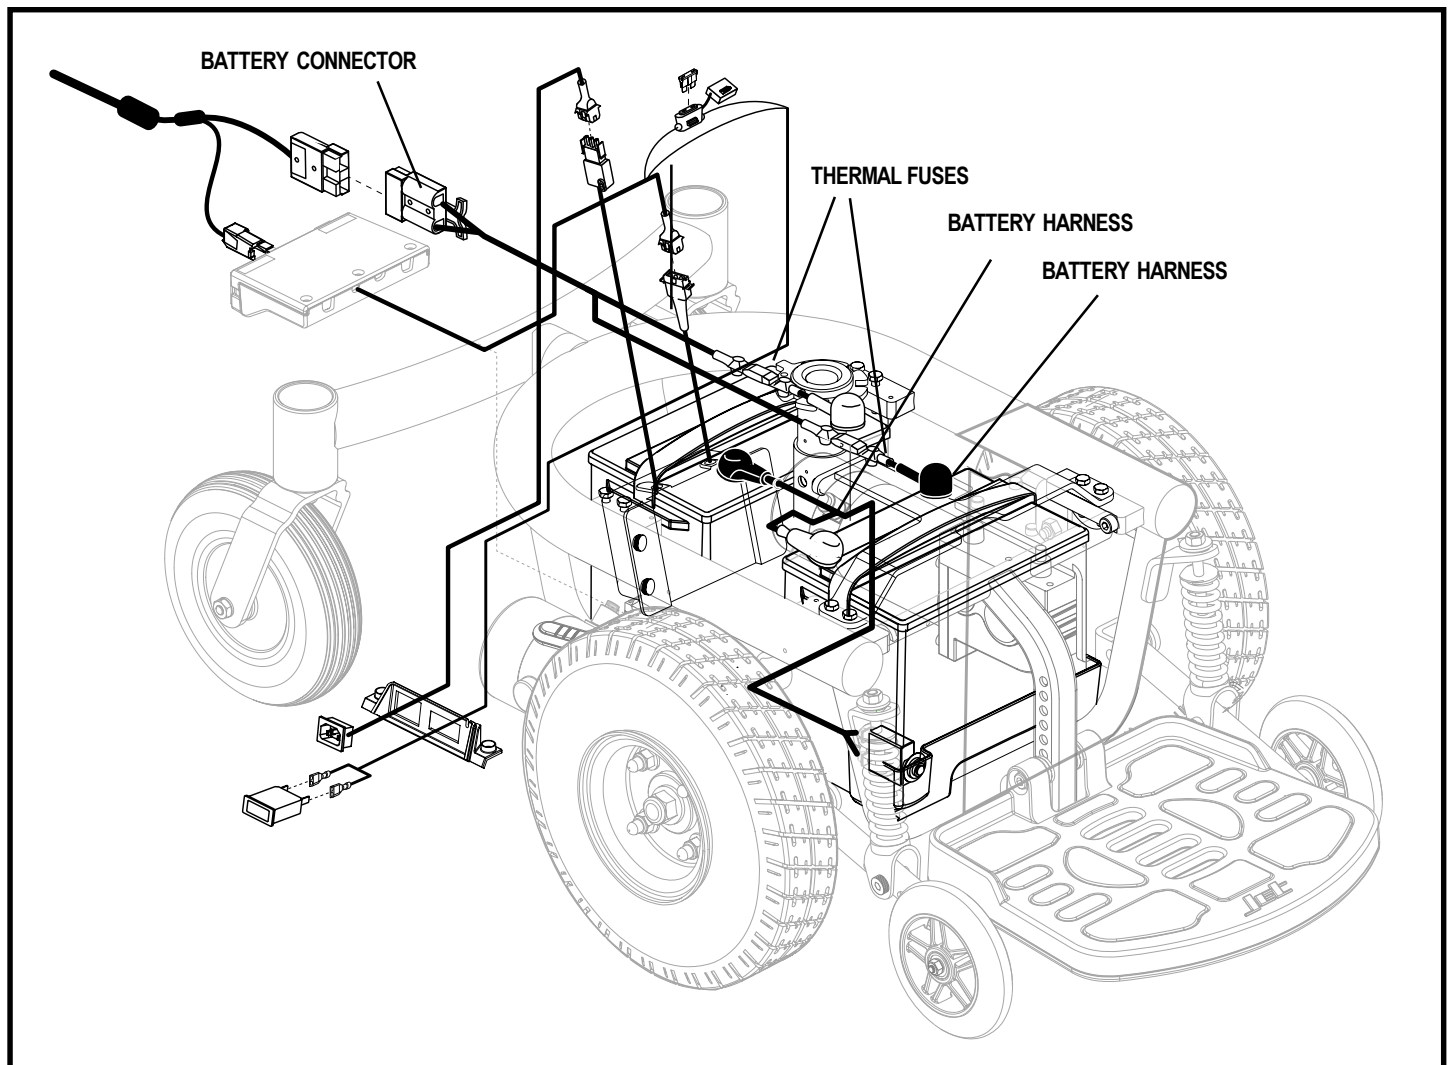

Figure 22. Z11 Battery Connections
5. Unplug the battery connector. See figure 22.
17. Connect the wiring harnesses to the front battery. See figures 22 and 23.
18. Connect the wiring harnesses to the back battery. See figures 22 and 23.